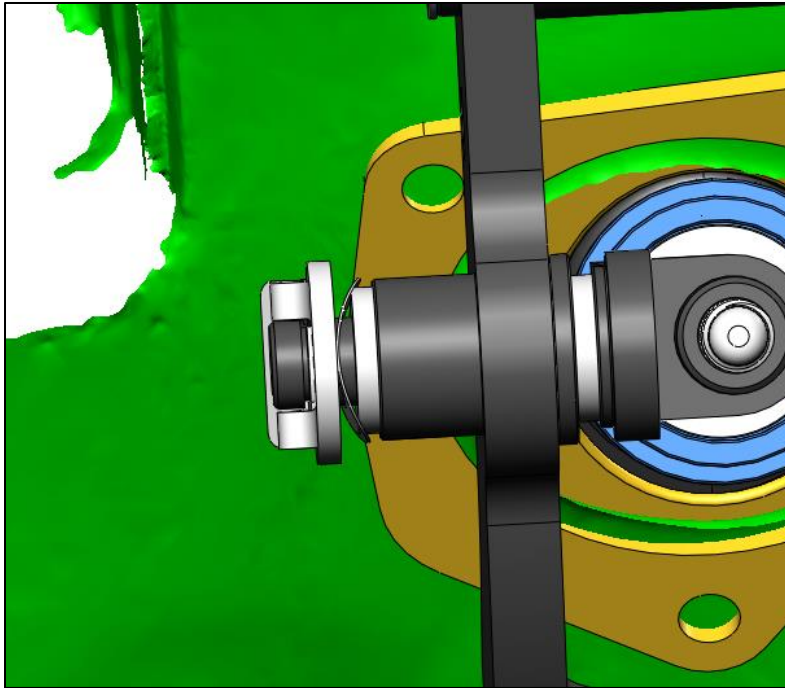

Figure 6: Clutch Rod Linkage Bushings
23. Adjust the linkage to align with the hole in the clutch pedal. Install the wave washer, then M10 nylon washer, and clip as shown in Figure 6.